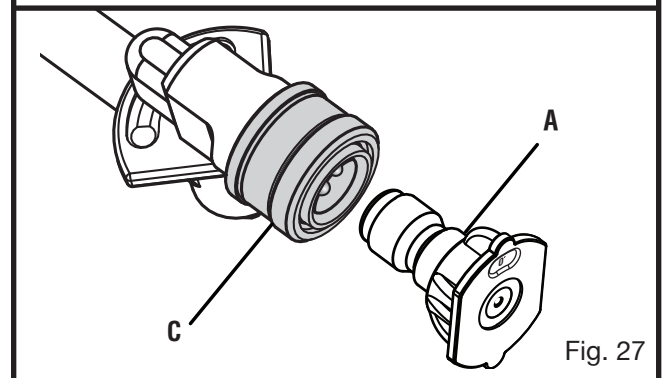

Fig. 27
- Install a (A) red zero degree nozzle to the (C) wand extension. The zero degree nozzle is normally the least used and therefore should have less wear. If the zero degree nozzle is missing, any of the other high pressure nozzles may be used but the outlet pressure may be a slightly lower due to normal wear of the nozzle. See Figure 27.